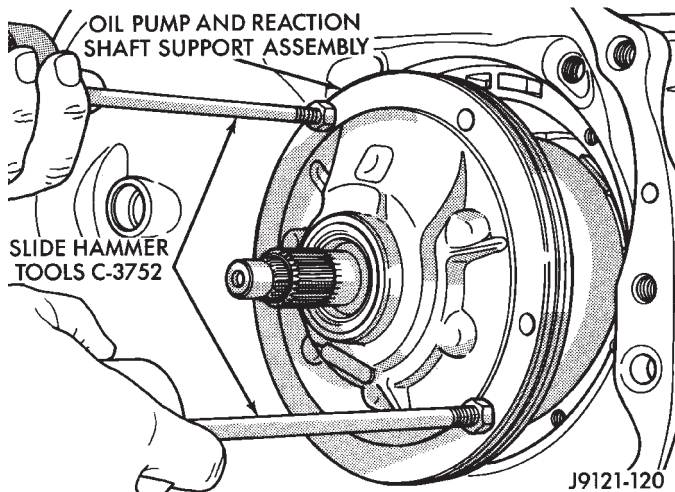

Fig. 10 Removing Oil Pump/Reaction Shaft Support
(14) Loosen front band adjusting screw locknut 4-5 turns. Then tighten band adjusting screw until band is tight around front clutch retainer. This prevents front/rear clutches from coming out with pump and possibly damaging clutch or pump components.
(15) Remove oil pump bolts.
(16) Thread bolts of Slide Hammer Tools C-3752 into threaded holes in pump body flange (Fig. 10).
(17) Bump slide hammer weights outward to remove pump and reaction shaft support assembly from case (Fig. 10).